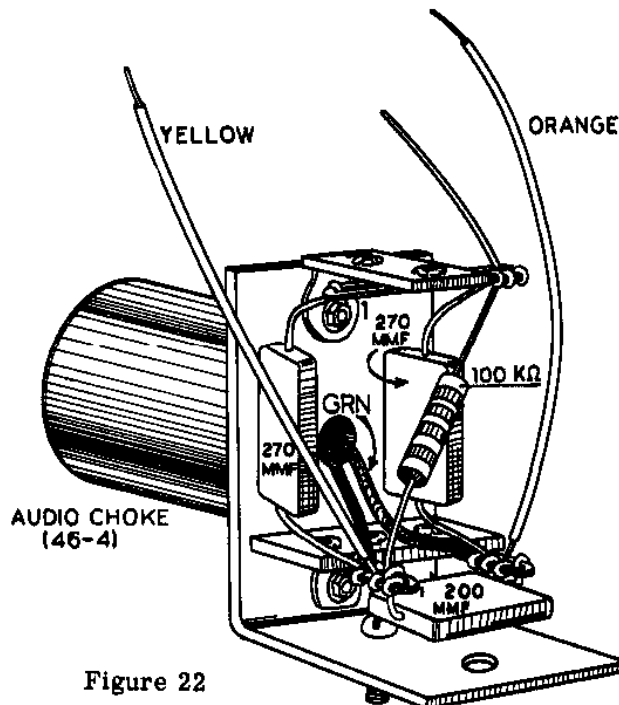

Figure 22
- (✓) At the end with the blue and orange wires and the shield pigtail, connect the orange wire to control lug HJ-2 (S1) and the blue wire to HJ-3 (S1). Connect the shield through HJ-1 (NS) to the control ground lug (S1). Now solder HJ-1 (S1).
- (✓) Connect the negative lead of a 10 mf, 25 V electrolytic to solder lug HK (S2). Position the capacitor as shown and, using sleeving, pass the other lead through V8-3 (S1) and then, using sleeving, to V8-8 (NS).
- (✓) Connect the leads from the strip pack as follows: white to V7-1 (S1); blue to V7-6 (S1); orange to V8-2 (S2); green to V8-1 (S1); red through V10-2 (NS) to V10-1 (NS); violet to V10-5 (S1); black to V8-8 (S2); and gray to V8-6 (S1). Now solder V10-2 (S1).
- (✓) Connect the blue lead from the driver transformer through V9-8 (NS) to V9-7 (S1). Now solder V9-8 (S1).
- (✓) Locate the audio filter mounting bracket. This is the small L shaped bracket illustrated in Figure 22. As shown, mount the audio choke, 46-4, on the face with the three holes, using #3-48 x 1/4" PHMS. Pass the choke leads through the center hole. Mount a 2 lug, (no ground) terminal strip on the mounting screw near the bend. Clip the mounting lug of the terminal strip with wire cutters for clearance. Mount a 1 lug (no ground) terminal strip on the other mounting screw.